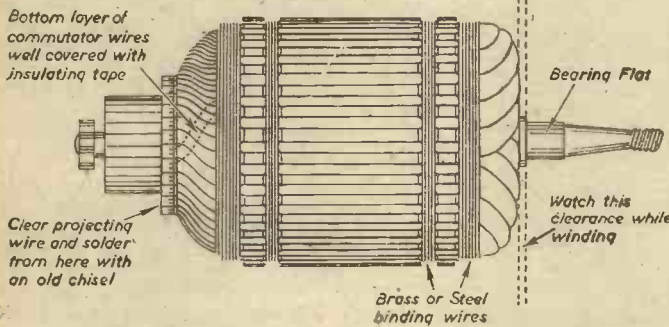

Fig. 4.—Sketch of finished armature illustrating points mentioned in the text.
S.C.C., the author found that all coils except three were shorting to each other at the sides! The only cure is to tape the sides of each coil thoroughly before winding on the next one. This also binds the whole winding together. Even when this is done, continuity tests should be tried from coil to coil and from coil to core after each coil is wound, since faulty insulation would be covered up by succeeding winding if not discovered. A battery and flash-lamp bulb will do the job. To press the wire into the slots, cut several small wooden wedges, and tap the wire down after every few turns. It is a good plan to leave too tight wedges, to hold each coil until the next one is put on. In the same way the winding should be compressed at each end by tapping with a hammer and wooden block, so that the whole feels rigid all through the job, with no suggestion of "sponginess." Coil ends are arranged according to any neat system that suggests itself to the constructor, so that beginnings and ends of bottom and top coils can be recognised afterwards. The first seven coils of each section are bottom coils, represented in the winding diagram by broken lines, and all slots except XV are now half full. The next coil, 3-19-20, will fill slot VIII completely, and half-fill slot XV, so that a change (see chain-dotted lines) appears on the winding diagram. All coils after this are top ones, shown by chain-dotted lines. A double strip of card should be tapped into each slot to insulate the two coils, which have the full generator voltage between them, and must be well separated. Proceed exactly as before until the whole armature is wound. The projecting edges of card should be closed into the slots and the whole tapped well down. Binding wires can now be put in position in the two grooves left for the purpose (Fig. 4). The author used brass wire from an old rabbit-snare, putting it on over a double strip of
The commutator connections can now be made, starting with the last coils wound, which can be traced most easily. All connections sloping in one direction to the commutator (dotted lines in Fig. 4) should be secured first. Wires coming from slots separated by the correct period, and showing continuity on a battery-and-bulb test, belong to the same coil. As each coil is located in this way its left-hand end (from the comm. end) is bent back over the armature out of the way, while the right-hand end is taken to the commutator five slots ahead of the one from which the wire emerges and soldered. This is repeated all the way around the armature giving the series of parallel wires of which 1-8', 7-9', 9-16', etc., are examples in the winding diagram. Put a small piece of the
it from flux. Put two more bindings just beyond each side of the iron core, as shown in Fig. 4, and before removing the tape from the commutator give the whole winding a good coat of varnish. In the absence of shellac the author used a tin of outside wood varnish intended for propellers, with quite good results!